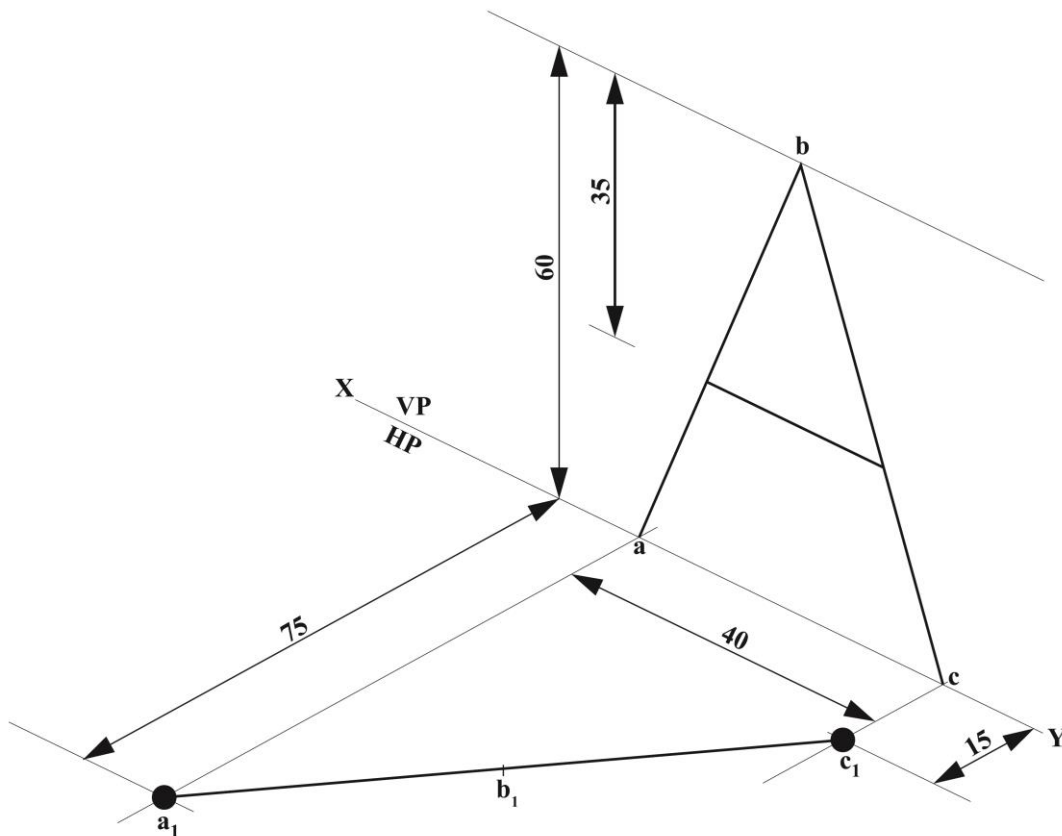

Figure 3. Shadow of letter “A”
- (b) The letter “A” (**not shown**) casts shadows on the horizontal plane and vertical plane as shown in figure 3.